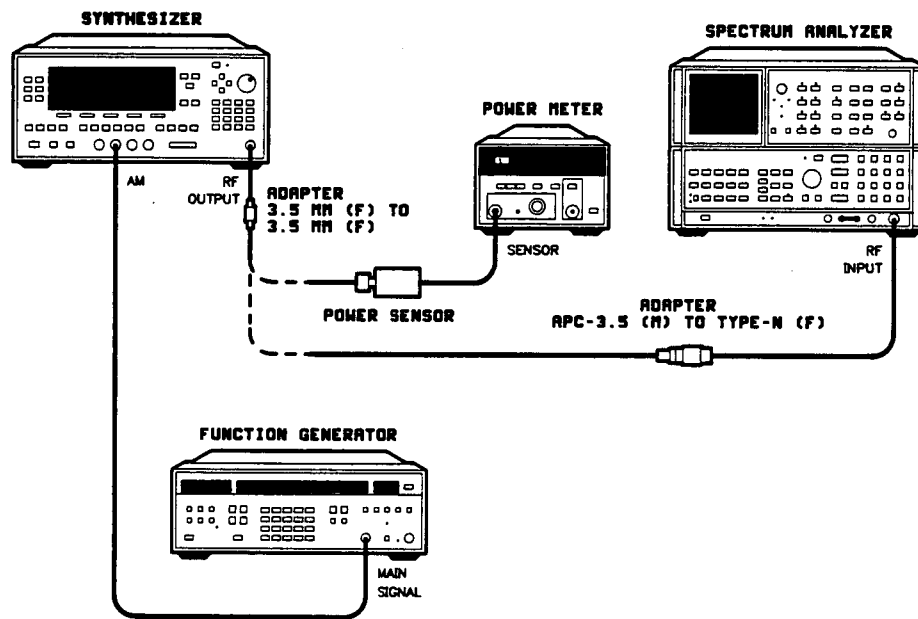

Figure 2-21. AM Dynamic Range Test Setup
1. Preset the instruments shown in figure 2-21 and let them warm up for at least one hour.
4. Connect the equipment as shown in figure 2-21 with the power sensor connected to the synthesizer's RF OUTPUT.
13. Disconnect the power sensor from the synthesizer and connect the spectrum analyzer as shown in figure 2-21.